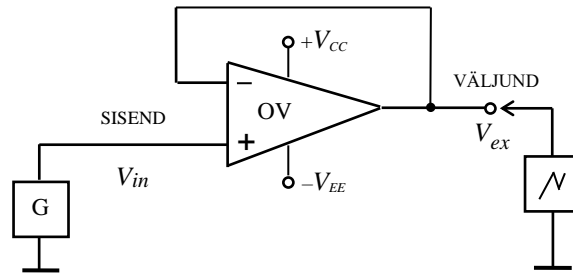

Fig. 6 Schematic of the OA unit-gain follower.
2.3. Compose the OA unit-gain follower circuit according to the schematic in Fig. 6. Input and output connections of amplifier must remain as were used earlier.